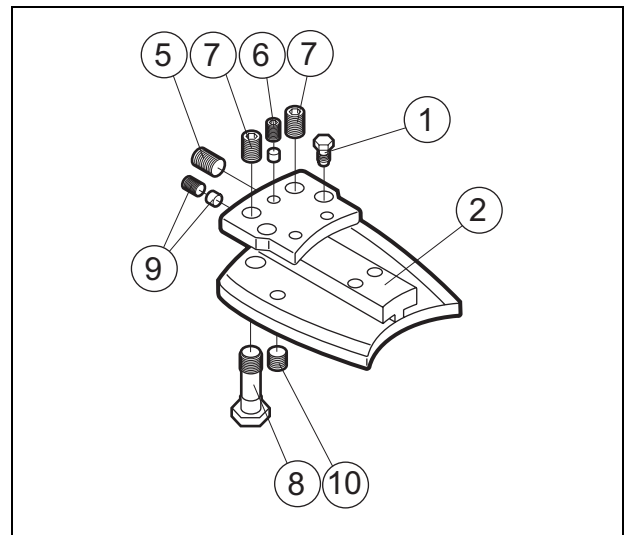

Fig. 45 Bar holder
4. Loosen the guide screws (1) with an 11 mm wrench until the bar holder (2) can be removed from the tensioning device (3). *See Fig. 45.*